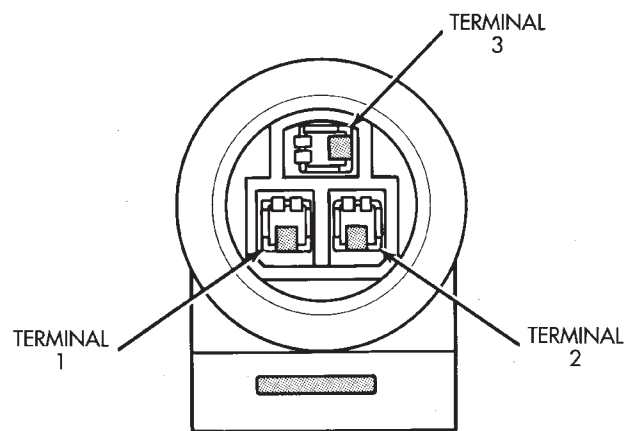

Fig. 59 MAP Sensor Connector
(1) Test the MAP sensor output voltage at the MAP sensor connector between terminals 2 and 3 (Fig. 59). With the ignition switch ON and the engine not running, output voltage should be 4 to 5 volts. The voltage should drop to 1.5 to 2.1 volts with a hot, neutral idle speed condition. If OK, go to next step. If not OK, go to step 3.